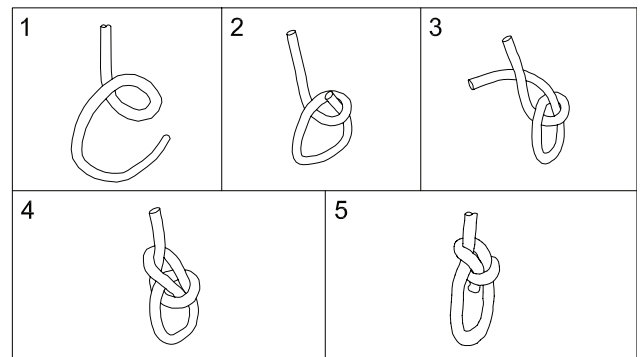

FIGURE 4
- Bowline knot lifting device (rope) to handles. See Bowline knot detail (Fig. 4 previous page)